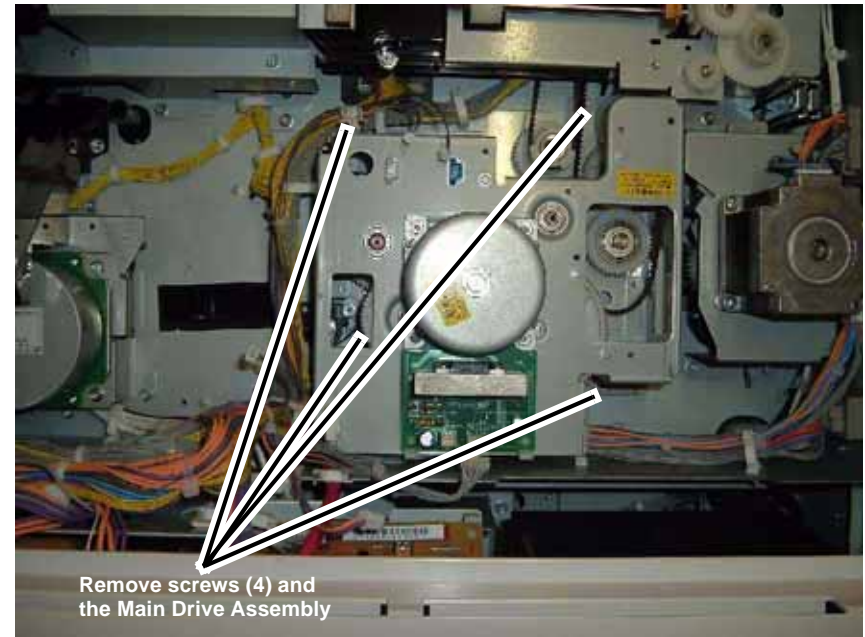

Figure 7 Removing the Main Drive Assembly
8. Remove the Main Drive Assembly (Figure 7).